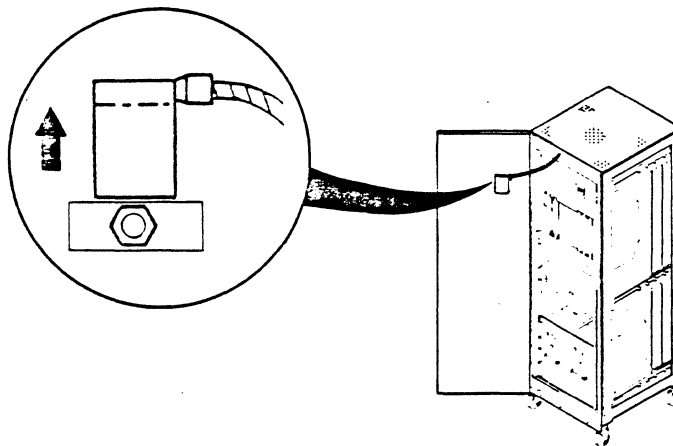

Figure 7-10. Ground Strap Location (Front)
- a. Open the card cage door and remove the ground strap (Figure 7-10).